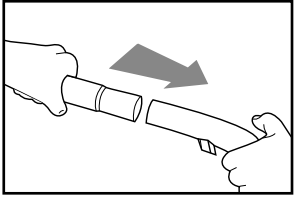

Fig. 3
Insert the extension tube onto the handle (Fig. 3) and then fit the required attachment.
- Insert the telescopic tube (Z) into the handle (Fig. 3).